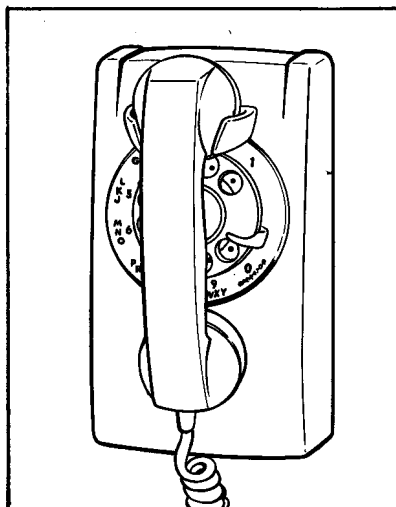

FIGURE 1. K-554 Wall Telephone
1.03 Figure 1 shows the K-554 wall instrument, Figure 2 shows an exploded view of the components of the set and Figure 3 is the wiring diagram.